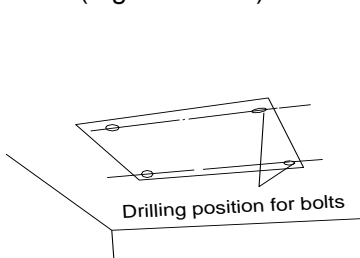

Figure 3-1-40
(1) Using the installation template, drill holes for bolts (four holes) (Figure 3-1-40).